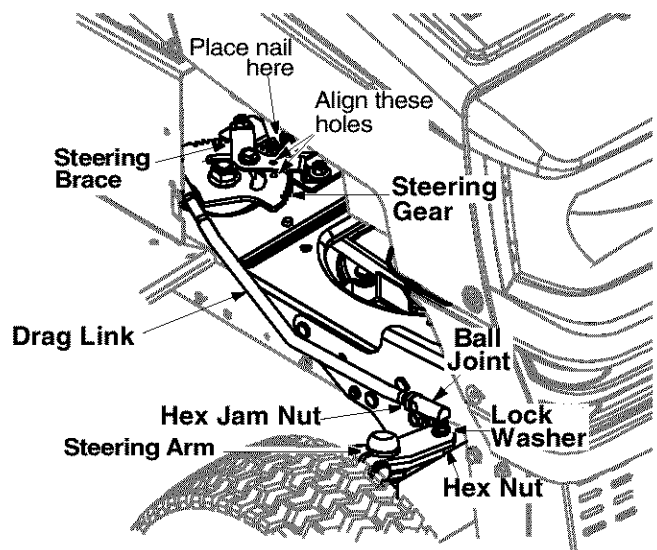

Figure 23
If the tractor turns tighter in one direction compared to the other, the steering drag link must be adjusted. To adjust the drag link follow these steps. See Figure 23.
- Loosen hex jam nut, called out in Figure 23 , at the rear of the ball joint.
Lubricate teeth of steering gears with automotive multi-purpose grease after every 25 hours of operation or once a season. Refer to Figure 23.